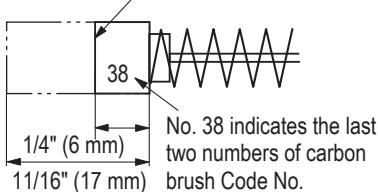
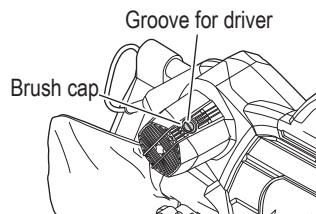

Fig. 51
Fig. 52
2. Inspecting the carbon brushes (Fig. 51 and Fig. 52)
Therefore, inspect the carbon brushes periodically and replace them when they have become worn to the wear limit line as shown in Fig. 51.
The carbon brushes can easily be removed after removal of the brush caps (see Fig. 52) with a slotted (minus) screwdriver.
When replacing the carbon brushes, use only metabo HPT carbon brushes having "38" in the last two digit of its Code No. (see Fig. 51). If you use other carbon brushes, the electric brake will not operate.